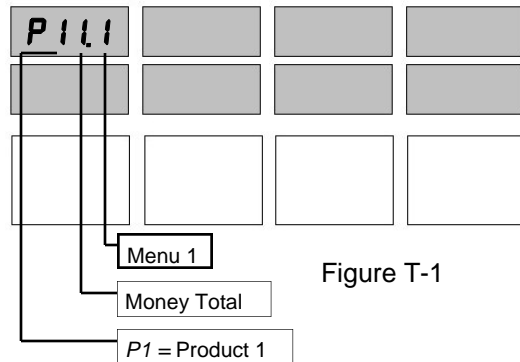

Figure T-1
1. Press the number 1 button and then the **MODE** button on the Manager's Keypad. The main sales display appears similar to Figure T-1.
The main display shows the total money amount. For example: If the total money amount for the dispenser is \$1,234,567.89, the display appears as in Figure T-1.
1. To enter the totals mode hold the black Access Magnet over the (Gallons, Liters) print beside the Main Display. See Figure T-6 for location. When the first Money totals appear remove the magnet. The display appear as in Figure T-1 with P11.1 showing in the price per gallon window to indicate the first Money total for Product 1.
4. Tap the magnet over the (Gallons, Liters) print again and the Money totals for Product 2 appear as in Figure T-1. Repeat steps 2 and 3 for the Product 2 totals and the remaining hoses on this side of the dispenser.